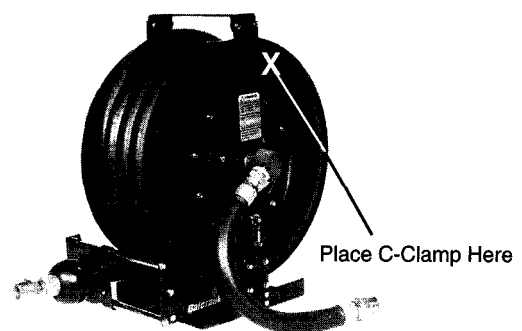

Figure 12
3. Secure spool from accidental rotation by placing a C-clamp onto the spool. See figure 12 for proper placement of C-clamp. This will keep the spool from rotating while installing the new service hose.
4. Remove screws (11, 12 & 16) from base (40), hub (29) and top tie bar (19).
5. Unclamp the reel from the workbench and lay it on a flat work surface so the spring case (21) is facing up.
6. Twist the complete spring case assembly to the left or right and once the upright (15) is clear of the base (40) and the top tie bar (19) lift to remove the assembly.
NOTE: Be sure that both bolts (24) and safety cotter pins (20) are still in place on each side of the case before lifting. (see figure 12 for placement of cotter pins).